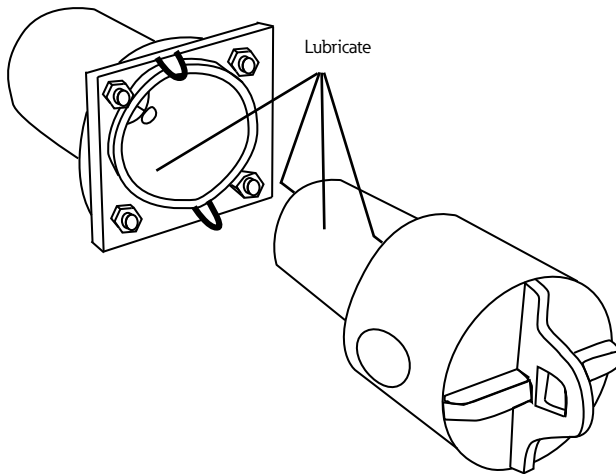

Figure 1. Lubricate plug and bushing mating interfaces.
- A thin coating of the supplied lubricant must be evenly applied to the entire mating surfaces of the insulated bushing well plug and as much of the bushing well inside circumference that can be reached. See Figure 1.